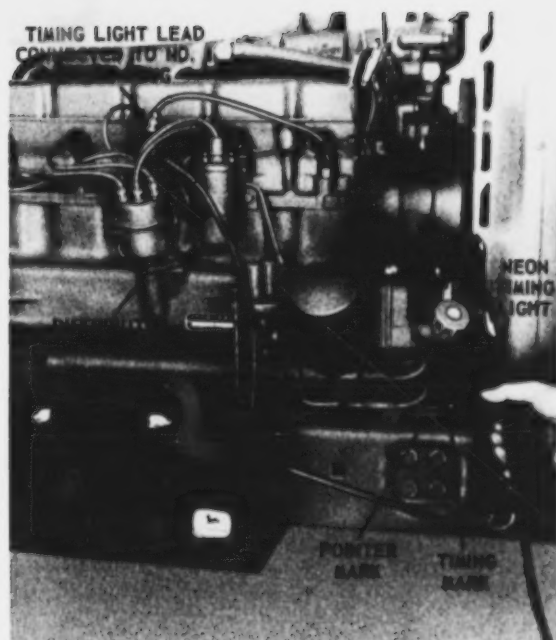

Fig. 70—Timing The Distributor With A Timing Light
2. Connect the timing light to the No. 1 spark plug and make any other connections recommended by the timing light manufacturer (see Fig. 70). Three types of timing lights are available:
6. Aim the timing light (Fig. 70) at the marking or pointer near the flywheel or crankshaft fan pulley (wherever the timing marks appear).
7. Loosen clamps holding distributor (Fig. 70).